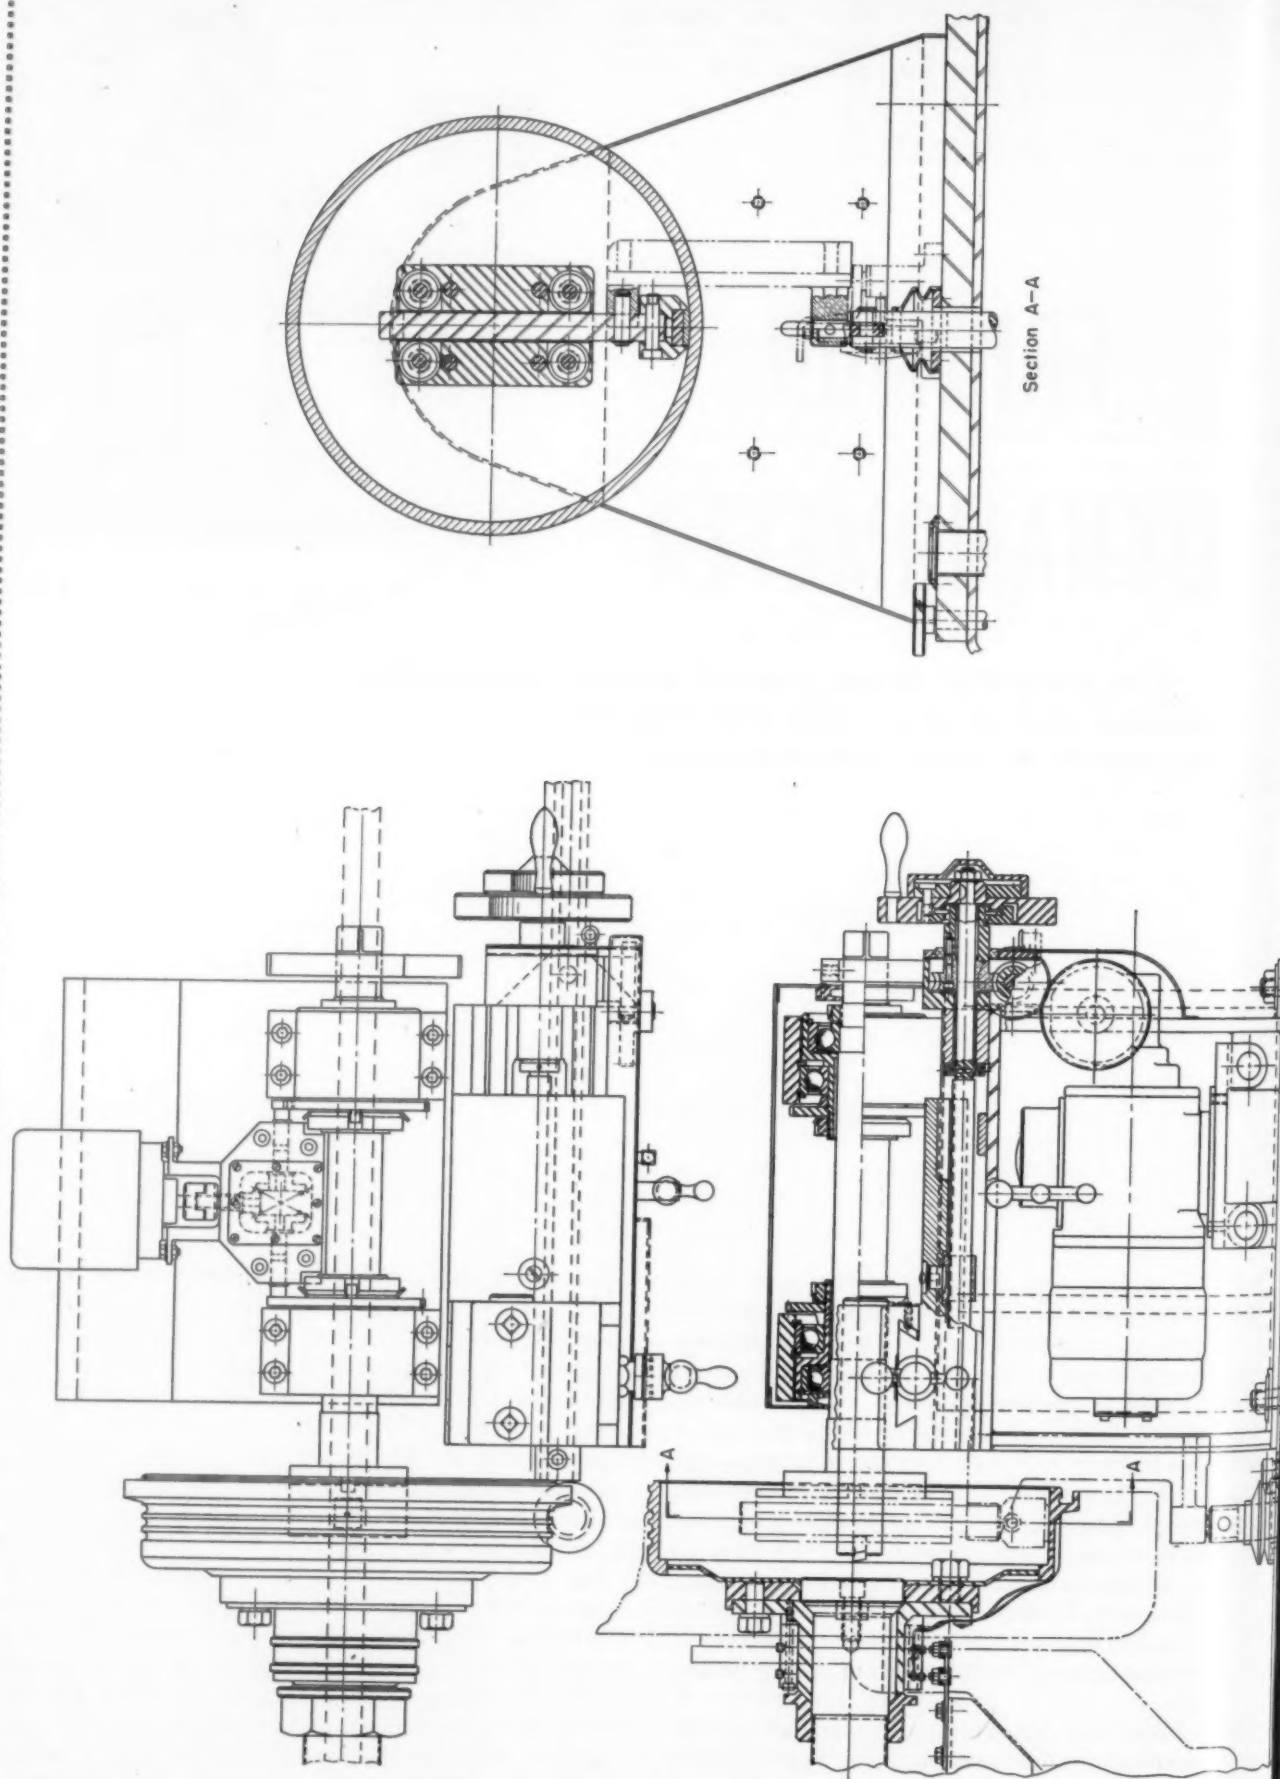

Fig. 2—Cross section drawing showing sample roller slide and contrarotating bearing arrangement of shaft for low friction
**Sample Fixture and Load Beam:** In preparation for test, a friction material sample is cut from a selected test segment and finished to one square inch surface area, and then ground or sanded to 11-inch outside diameter for full surface contact with the drum. The sample is held during test with jaws extending from the side of the fixture. During sample preparation the fixture is detached from the square torque arm to facilitate fitting the friction material sample. The sample holder, with a sample mounted in the jaws, is attached to the square input torque arm which rides up and down guided by four ball bearings seated in a rectangular guide, *Fig. 2*. This guide is keyed to the torque output shaft to transmit a measure of the torque created by friction between the sample and the rotating brake drum to the measuring device.
**Output Shaft and Torque Arm:** The torque shaft itself is supported near both ends by contrarotating ball bearings driven by a small motor through bevel gearing, Fig. 2. This type bearing support was designed to cancel out friction and to prevent brinelling of the races.